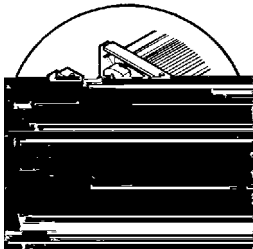

Figure 14
4. Reassemble the blower wire. See Figure 14.
5. Reassemble the blower wire. See Figure 14.